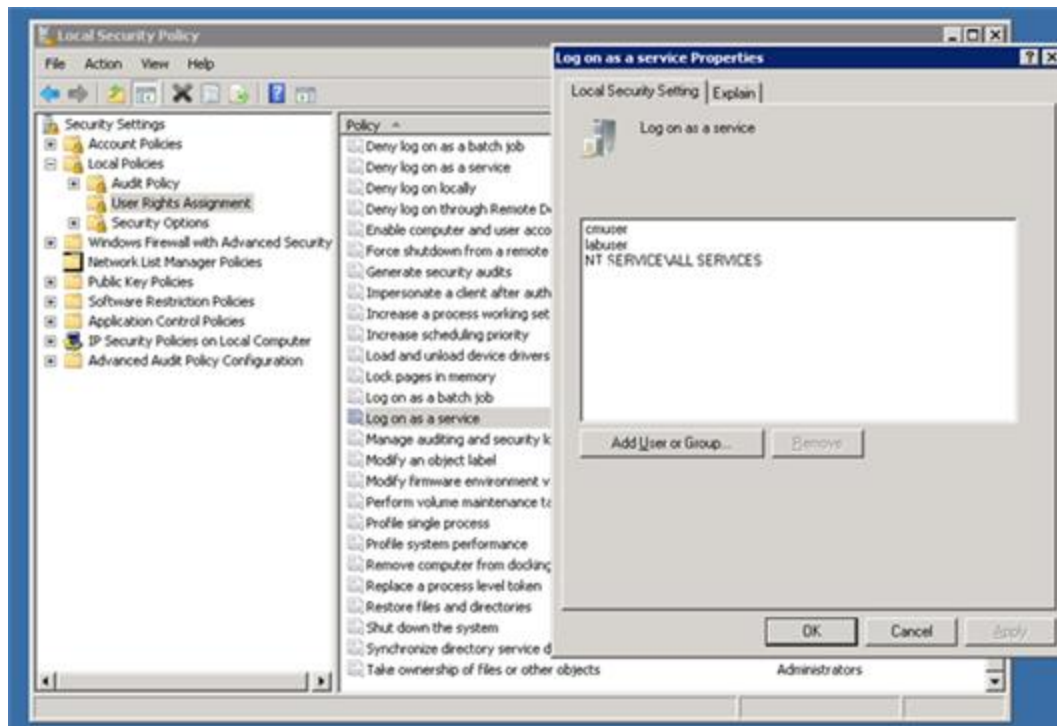

Figure 3: Associating the user to the Logon as a service policy
- A list of policies will then appear in the context sensitive right panel. Clicking the **Logon as a Service** policy will invoke the **Logon as a service Properties** window (See Figure 3).